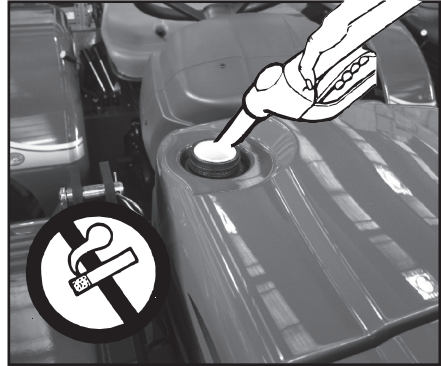

Fig. 2.6
- Do NOT smoke during refueling. Do not use open flames. (Fig. 2.6).